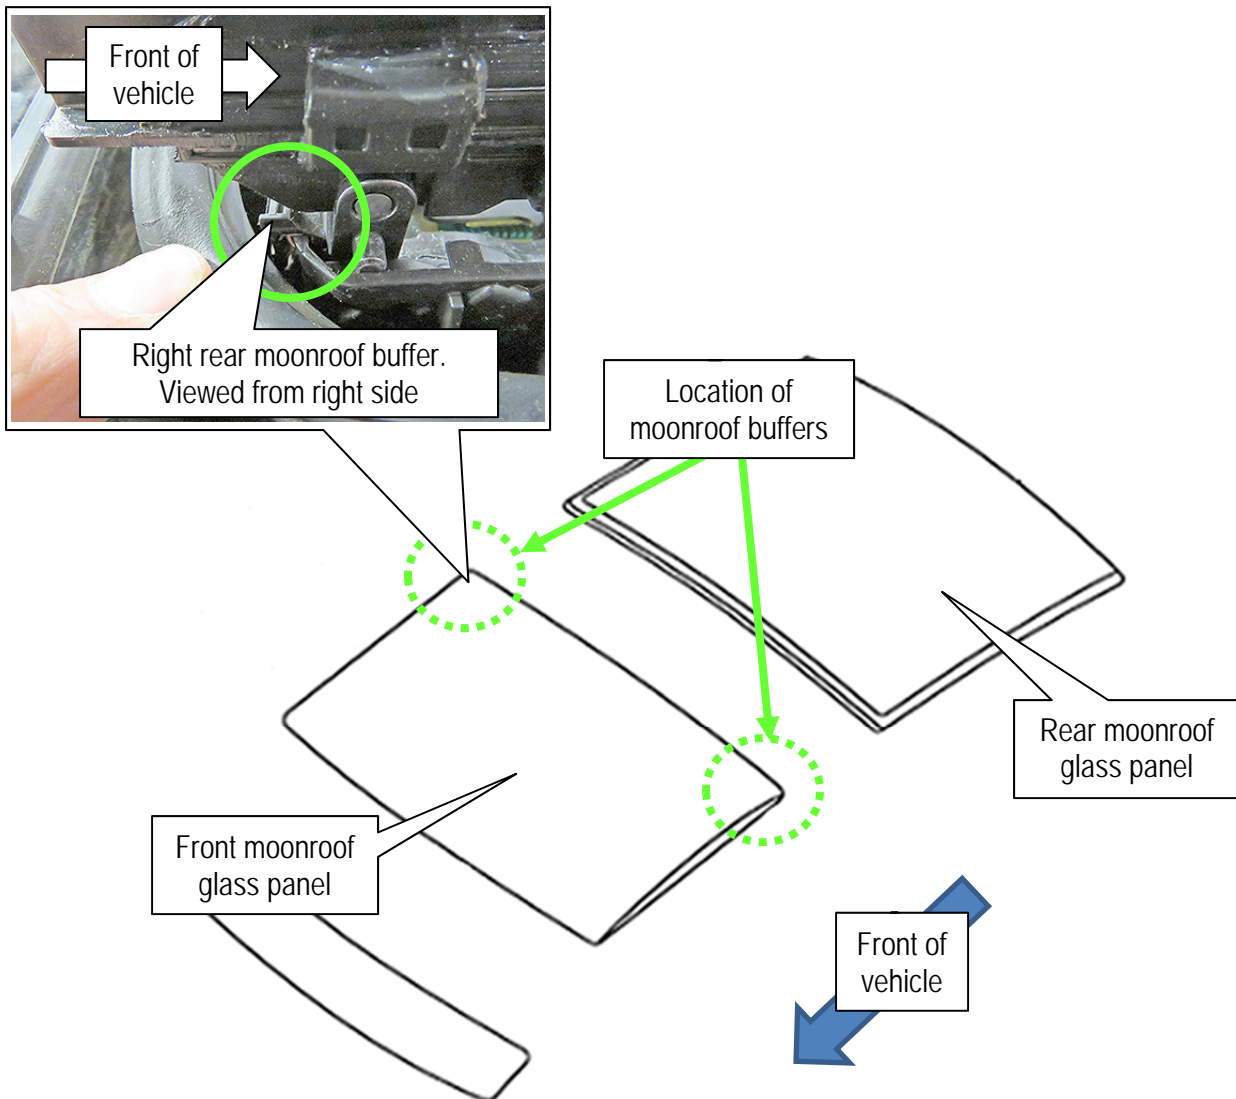

Figure 2
The moonroof buffers have been confirmed as being the old style (see Figure 2 and Figure 3 on pages 2 and 3, respectively).
2. Locate the front moonroof glass panel buffers (moonroof buffers). See Figure 2 and Figure 3.
- One (1) moonroof buffer is located at the right rear corner and one (1) moonroof buffer is located at the left rear corner of the front moonroof glass panel.